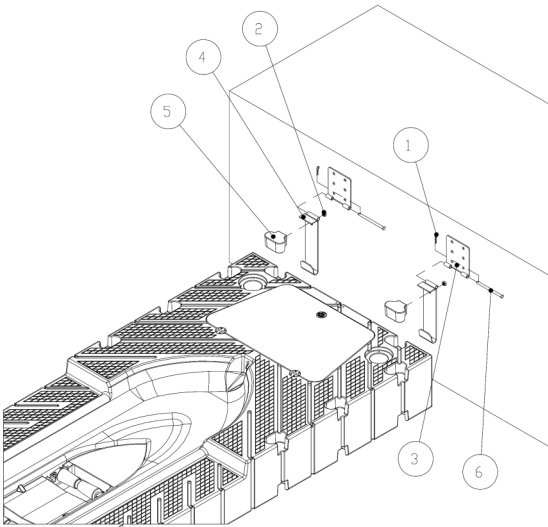

Figure 8
2. Determine the best position for the hinge adapter plate. The plate can be above (Figure 8), perpendicular, or directly in front of the hinge adapter bracket (Figure 9).